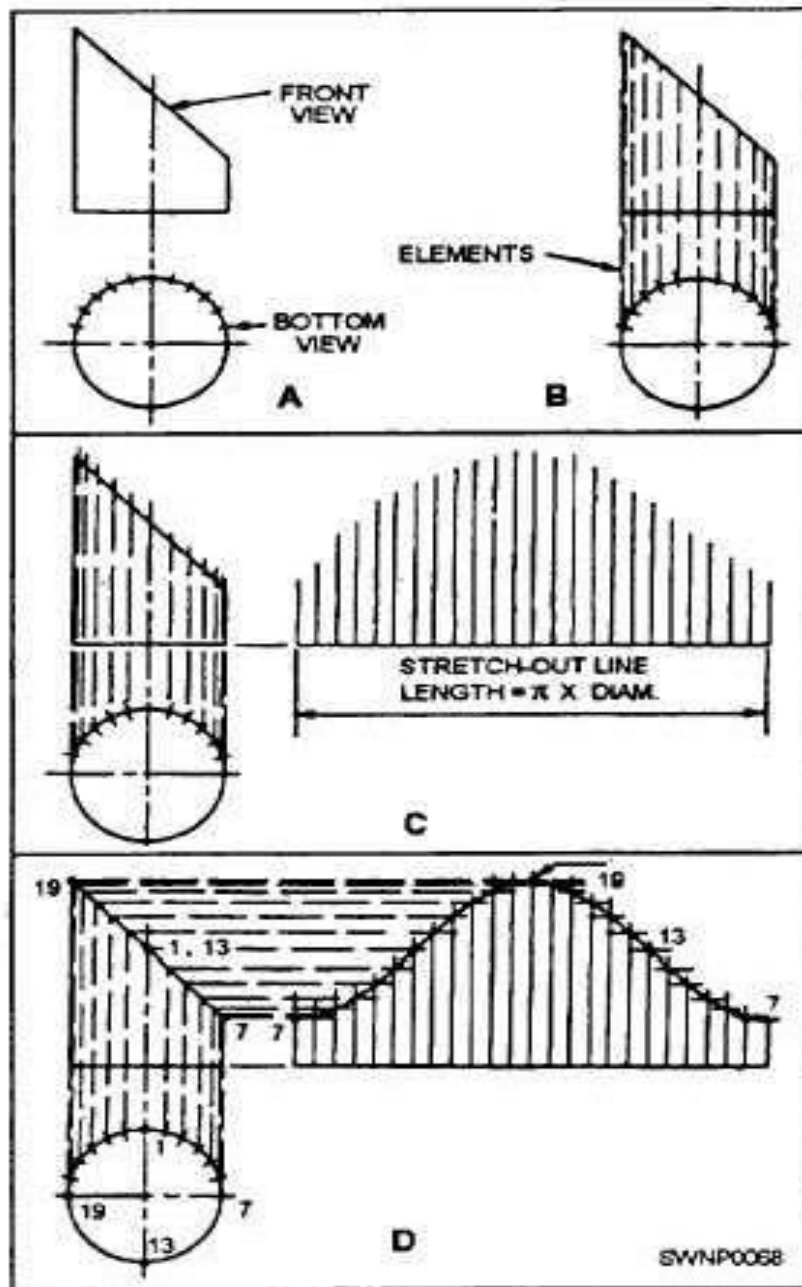

Figure 1.22. Stretching out line
1. First, draw a front and bottom view by orthographic projection (figure 1.22, view A).
2. Divide half the circumference of the circle (figure 1.22, view A) into a number of equal parts. The parts should be small enough so that when straight lines are drawn on the development or layout between division points, they will approximate the length of the arc. Project lines from these points to the front view, as shown in figure 1.22, view B. These resulting parallel lines of the front view are called elements.
3. Lay off the baseline, called the stretch-out line, of the development to the right of the front view, as shown in figure 1.22, view C.
4. Divide the stretch-outline into twice the number of equal parts equal to each division of the circumference on the half circle of the orthographic view (figure 1.22,, view C).
5. Erect perpendicular lines at each point, as shown in figure 1.22, view C.
6. Using a T-square edge, project the lengths of the elements on the front view to the development (figure 1.22, View D).